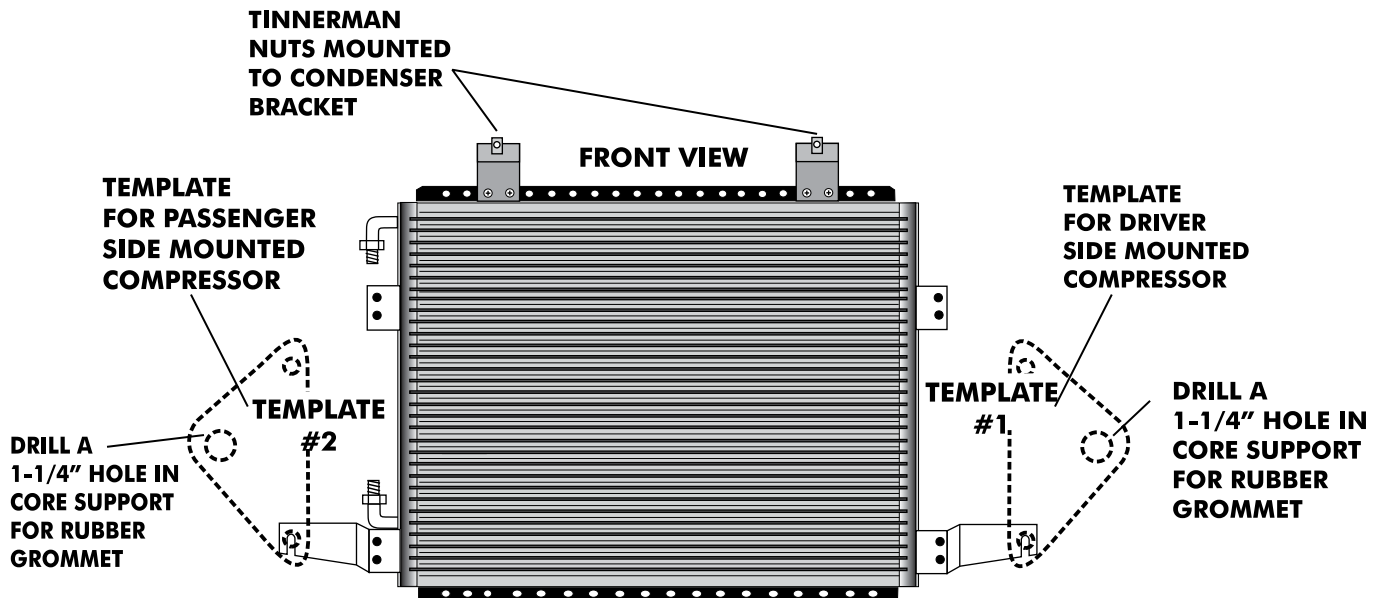

FIGURE 2
- ☐ 2. CUT OUT THE APPROPRIATE TEMPLATE(S) AND POSITION ON CORE SUPPORT AS SHOWN IN FIGURE 2.